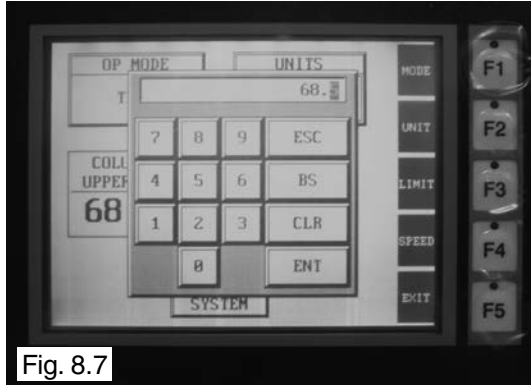

Fig. 8.7
8. Pressing **UPPER LIMIT** or F3 (Column A Control Panel only) allows the user so set the maximum height at which the lift will stop. (See Fig 8.7)